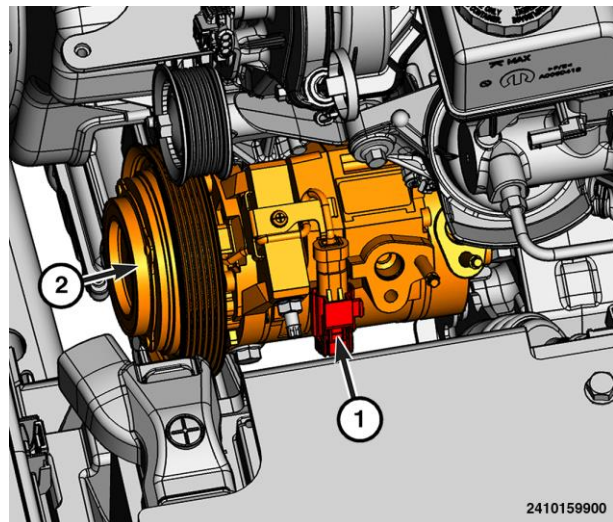

Figure 11 – A/C Compressor Connector
17. Disconnect the wire harness connector (1) from the A/C compressor (2) (Figure 11).
42. Connect the wire harness connector (1) to the A/C compressor (2) (Figure 11).